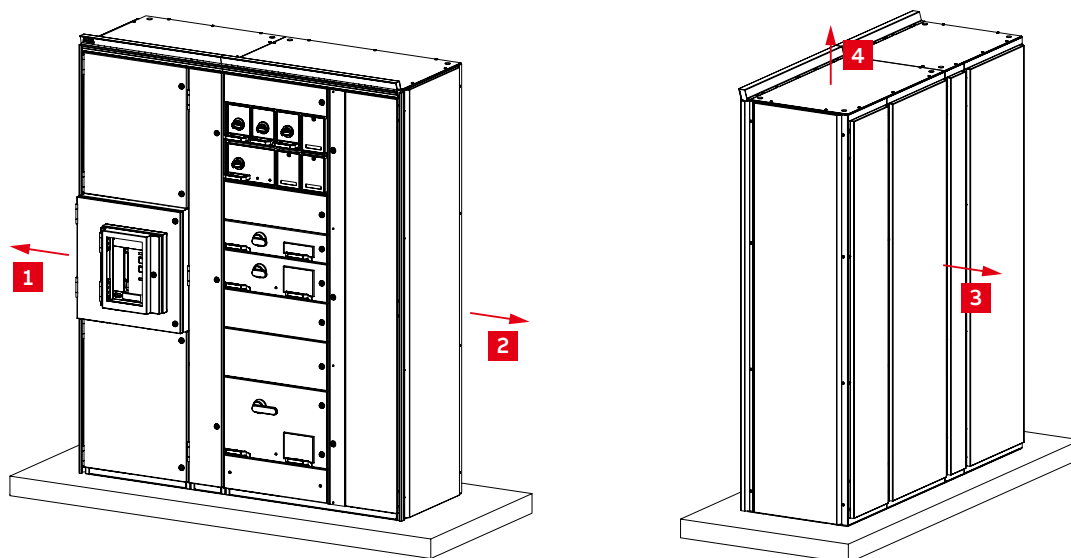
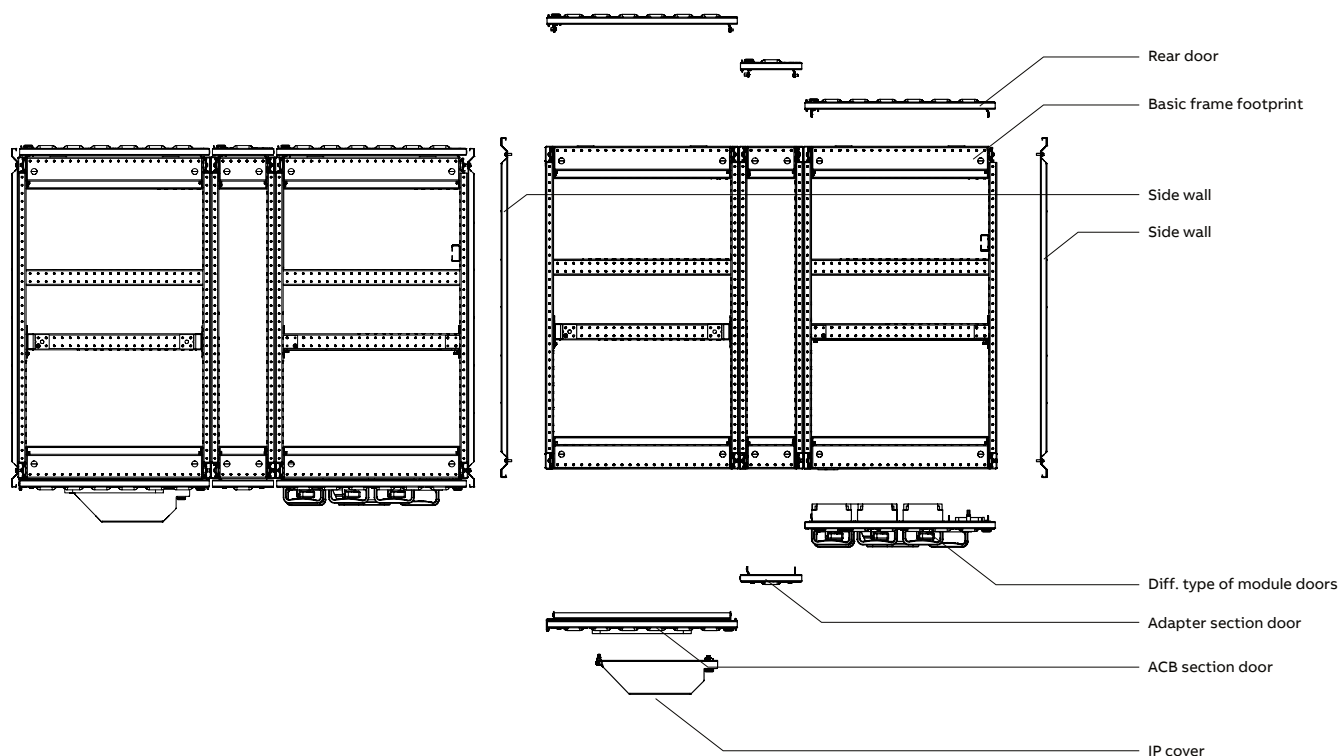

Figure 4-02 Section minimum clearances
Figure 4-11 Example of section foot print extension parts
- Clear access and space for installation, operation, maintenance and emergency situations. Clearances may vary depending to local regulations, Table 4-02 to table 4-04 and Figure 4-02 to Figure 4-11 shows the minimum requirement as per ABB MNS design guidelines.